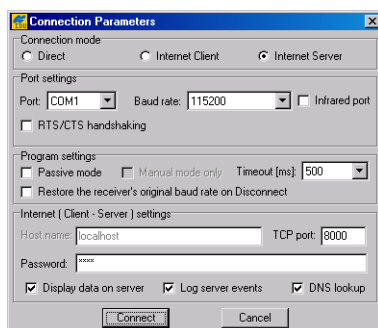

Figure 1-8. Internet Server Connection Parameters
2. Click **Connect** (Figure 1-8).